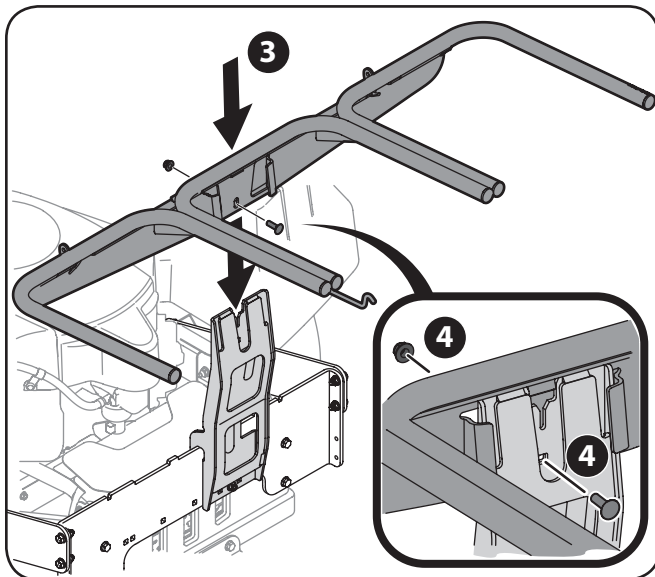

Figure 4-5
8. Lower the bagger hanger assembly down onto the upright support bracket, as shown in 3 of Figure 4-5. Secure the hanger assembly to the upright mounting bracket using the remaining 5/16" carriage bolt and flange lock nut packed in with the upright bracket. See 4 in Figure 4-5.